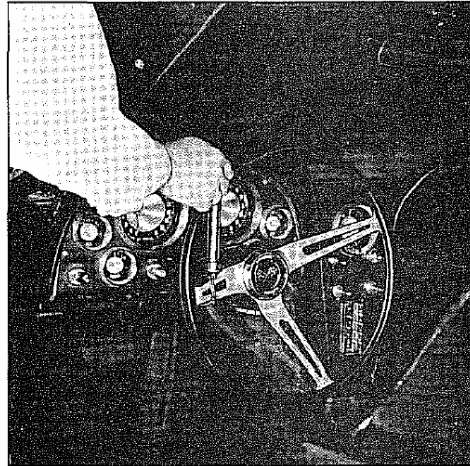

Fig. 4—Checking Wheel Pull
- Using Tool J-0544 (fig. 4) measure pull at rim of wheel which is required to keep wheel in motion. This should be between  $\frac{3}{8}$  and  $\frac{1}{4}$  pounds.